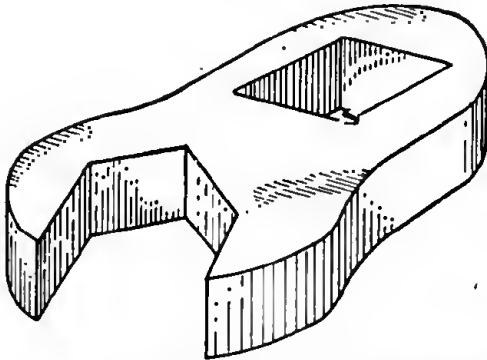
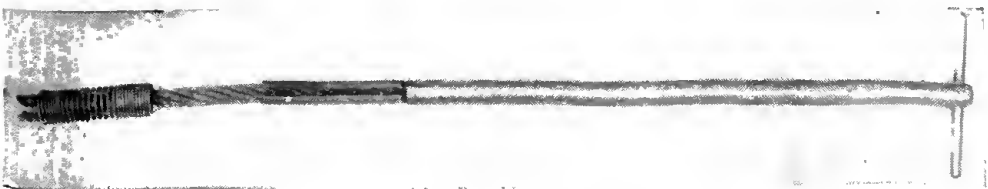

Figure 35. Starter and generator stud-nut wrench.
Figure 36. Hose-clamp wrench.
n. **STARTER AND GENERATOR STUD-NUT WRENCH.** (1) This is a small wrench about 2 inches long. One end is open and fits the attaching nuts of the starter and generator. The other end has a square hole for an extension bar. (See fig. 35.)
(2) An open-end wrench will fit the attaching bolts on a starter and generator, but cannot be used because the magnetos are in the way. With the starter and generator wrench, the extension bar allows the handle to reach behind the accessories where its swing is not hindered.
o. **HOSE-CLAMP WRENCH.** (1) A hose-clamp wrench consists of a fitting for the hose-clamp thumb screw fastened on one end of a piece of wire cable through a universal joint, and a handle on the other end. It is about 20 inches long. (See fig. 36.)